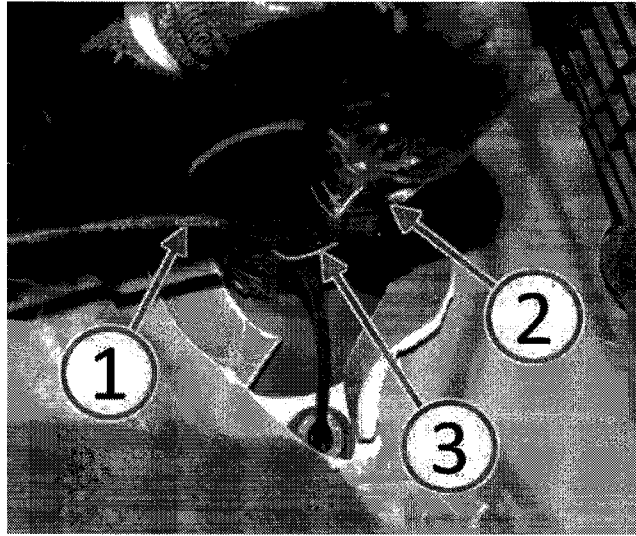

Fig. 6 Secure Hood Release Cable To Harness
6. Near to where the hood latch release cable passes through the front cowl, secure the hood latch release cable (1) to the wire harness (2) with a tie strap (3) and remove any excess tie strap material (Fig. 6).